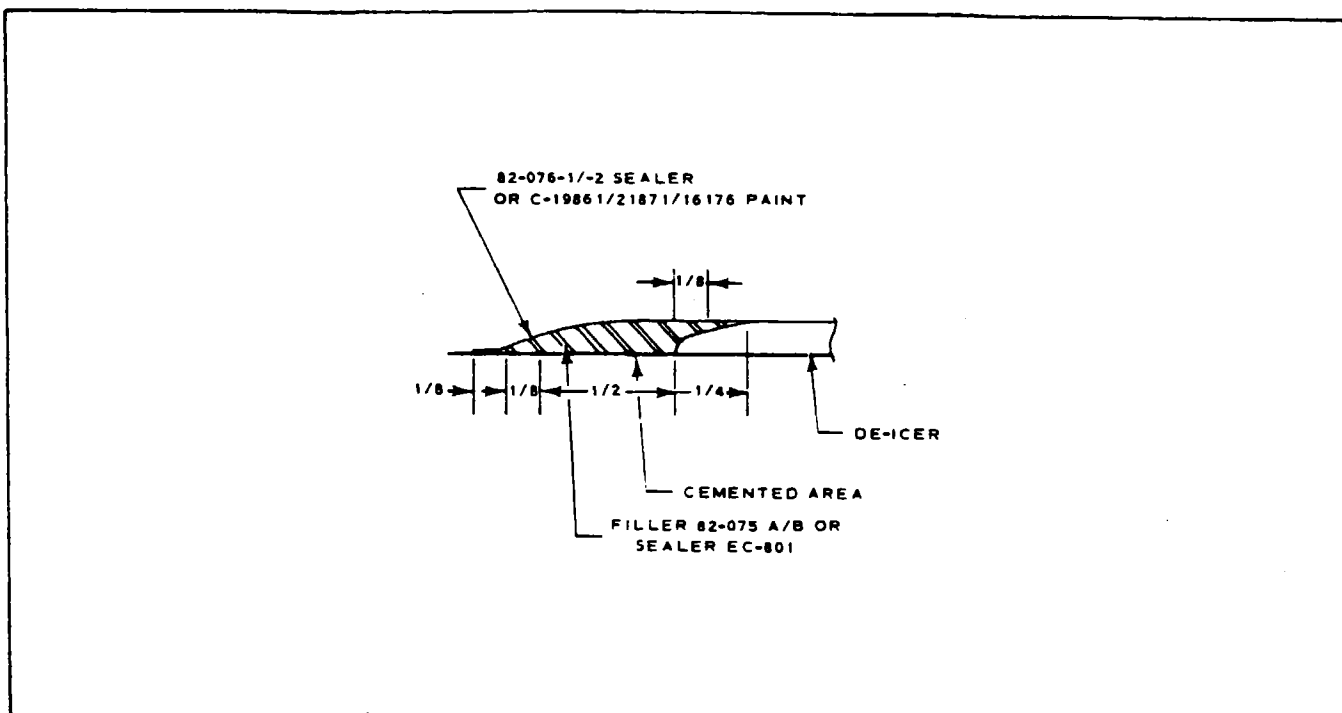

Figure 14-14. Sealer Application (Boot)
- f. Apply one even coat of filler to area around the inboard end and sides of the deicer. (Refer to Figure 14-14.) Immediately remove the masking tape and allow the filler to dry for six hours.
- g. Apply masking tape about .125 of an inch beyond filler or .250 of an inch beyond cemented area when no filler is used, to permit sealer to contact bare metal. Apply one even brush coat of sealer to the area around the deicer. (Refer to Figure 14-14.) Remove masking tape immediately and allow sealer to dry. Allow 12 hours cement curing time before starting engine, allow 24 hours cement curing time before operating the deicers.